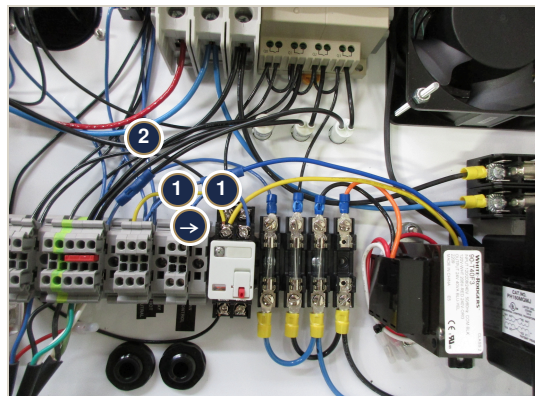

Figure 4 — Terminal block area, showing the fan toggle switch conversion.
- 1** Remove the two blue wires marked 1 in Figure 4.